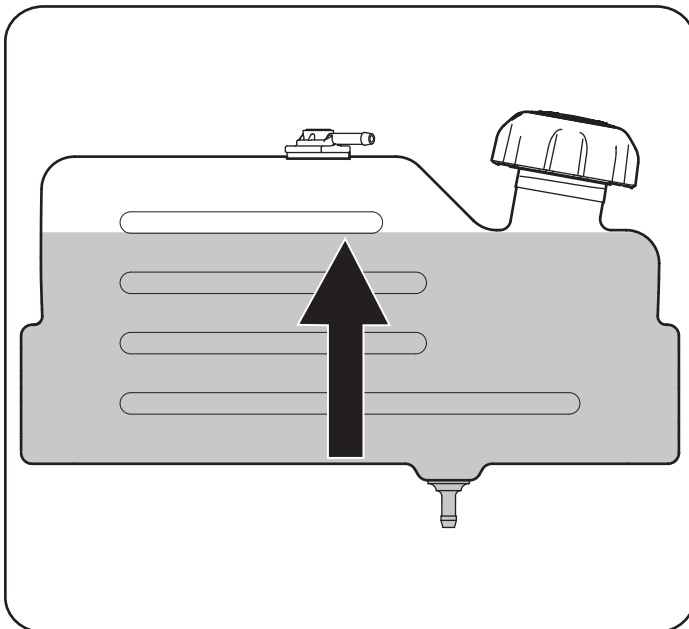

Figure 9
2. Fill the fuel tank with gasoline. Use only clean, fresh (no more than 30 days old), unleaded gasoline. Fill tank to the base of the filler neck to allow space for fuel expansion. **DO NOT TOP OFF THE TANK WITH FUEL.** See Figure 9.